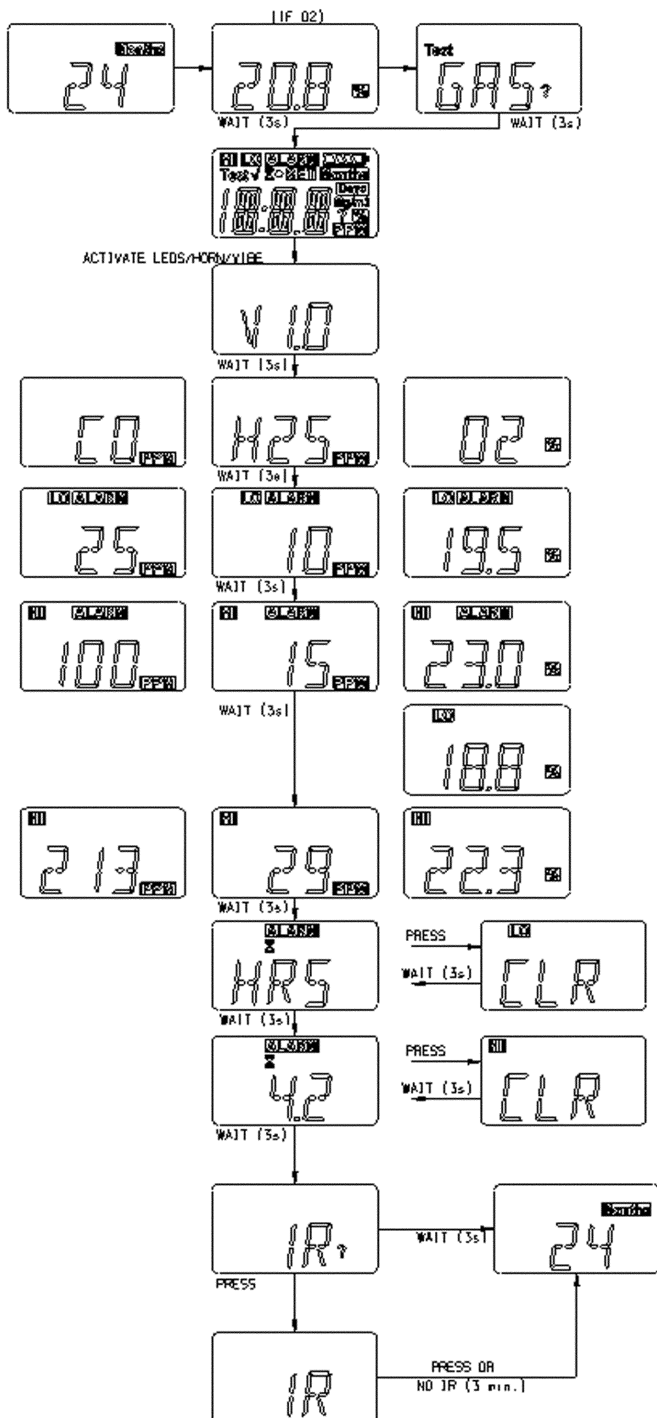

Figure 5 Accessing Altair Pages Flow Chart
- See Figure 5 for additional details.